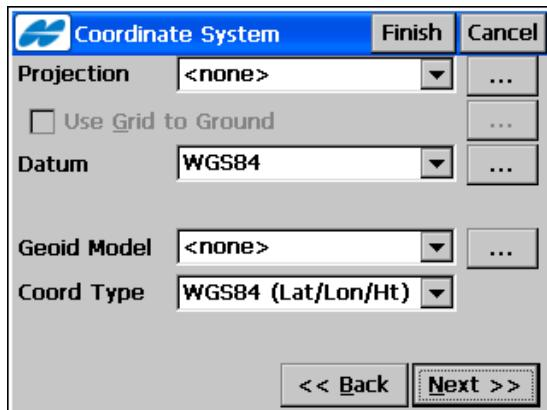

Figure 5-19. Coordinate System
- **Next** – opens the **Coordinate System** screen (see Figure 5-19 on page 5-18).
On the **Coordinate System** screen (Figure 5-19) select the coordinate system and the coordinate type for the data in the file imported.